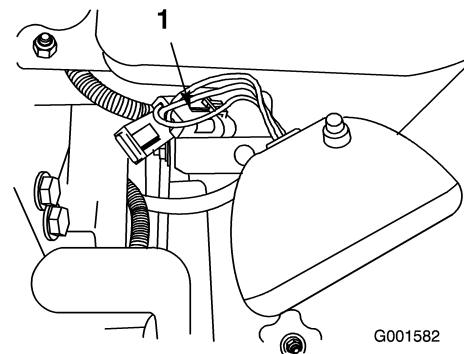

Figure 18
3. Connect the side light wire connector to the light kit wire harness connector (Figure 18).
4. Connect the 2 wire connectors of the front lights to the connectors on the light kit wire harness (Figure 18).